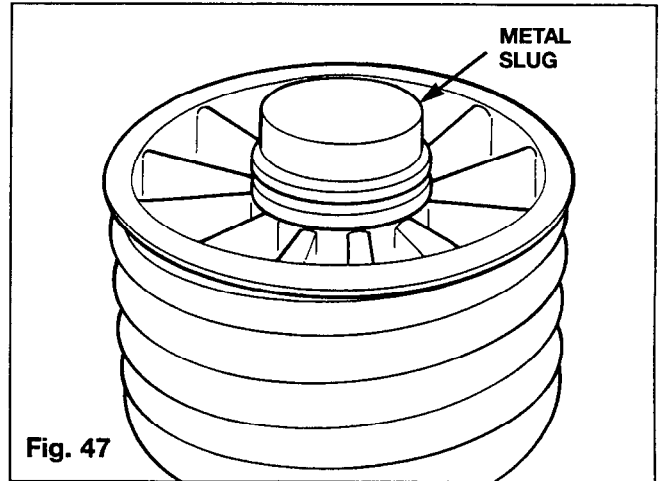

Fig. 47
4. **Installing New Thrust Bearing** - To install the thrust bearing, place the ground I.D. side of the bearing race against the reel, place the retainer through the thrust bearing and press it into the reel. After the retainer is pressed, check the outer bearing race to be sure it rotates freely. The thrust bearing retainer should be .008" to .012" below the surface of the outer bearing race. Refer to Figure 47.